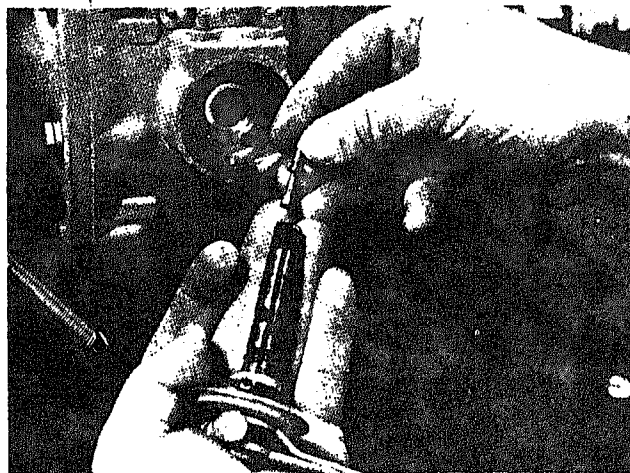

Fig. 511-32. Removing shims from restriction plunger
4. To adjust pressure to specifications, stop test stand and remove the throttle shaft. Fig. 511-32.